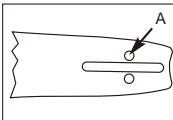

Fig. 3A
To ensure the bar and chain receive oil, ONLY USE THE ORIGINAL STYLE BAR with the oil passage hole (A) as illustrated above. (Fig.3A)